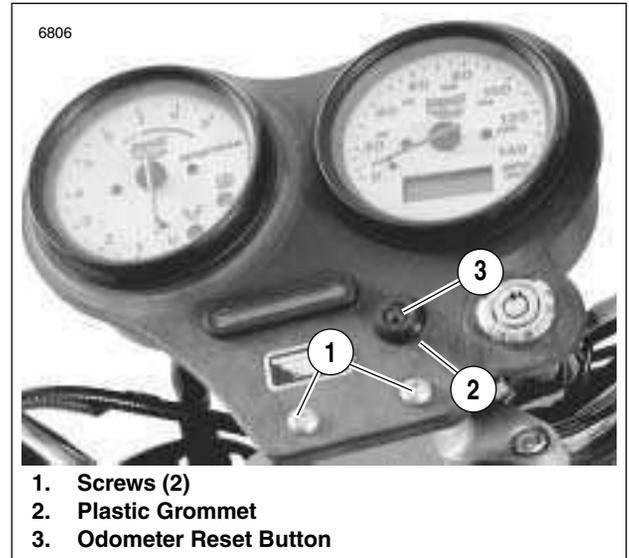

Figure 7-56. Dash Panel (Front)
- a. See Figure 7-56. Pry off plastic grommet (2) from front of odometer reset button (3).
3. See Figure 7-56. Detach instrument support dash panel by removing two screws holding panel to instrument support clamp. Pull dash panel upward, but do not damage wiring.
- e. See Figure 7-56. Secure odometer reset button (3) on front of dash panel with plastic grommet (2).
- b. Apply LOCTITE THREADLOCKER 243 (blue) to both nuts (metric) (4).
- c. Fasten cover (6) to speedometer using two nuts (metric) (4) and lockwashers (5).
6. See Figure 7-56. Position dash panel on instrument support clamp.
- a. Attach dash panel using two screws (1) to hold panel to clamp.